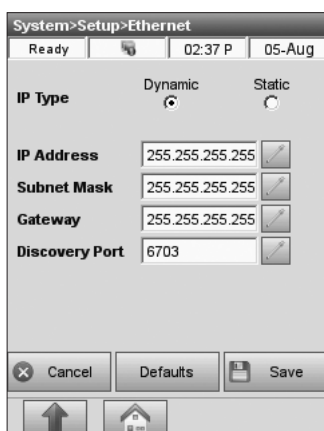

Fig. 3-96 Ethernet Settings
- Go back to the **<System>Setup>Ethernet>** screen (Fig. 3-96) and fill in the following fields as needed:
When network connection is enabled, the status bar displays the network icon  (Fig. 3-96).